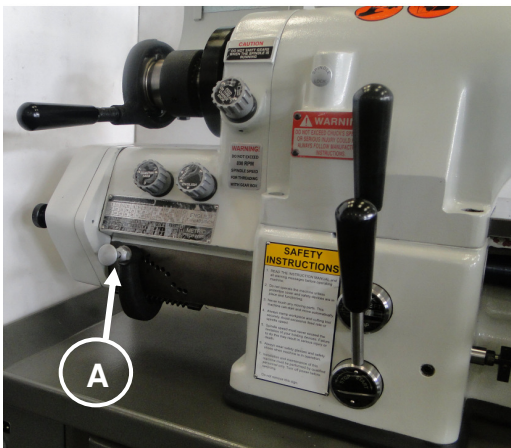

Figure 43-Headstock and Gearbox
**BEFORE SETTING UP CHANGE GEARS, PLACE KNOB “A” (FIGURE 43), IN THE “OUT” POSITION.**